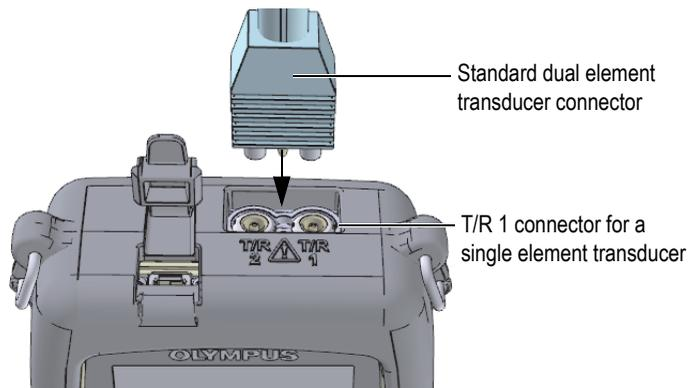

Figure 5-1 Plugging in the transducer
1. Plug the transducer into the transducer connector(s) on the top of the 45MG case (see Figure 5-1 on page 50), using only T/R 1 for a single element transducer.